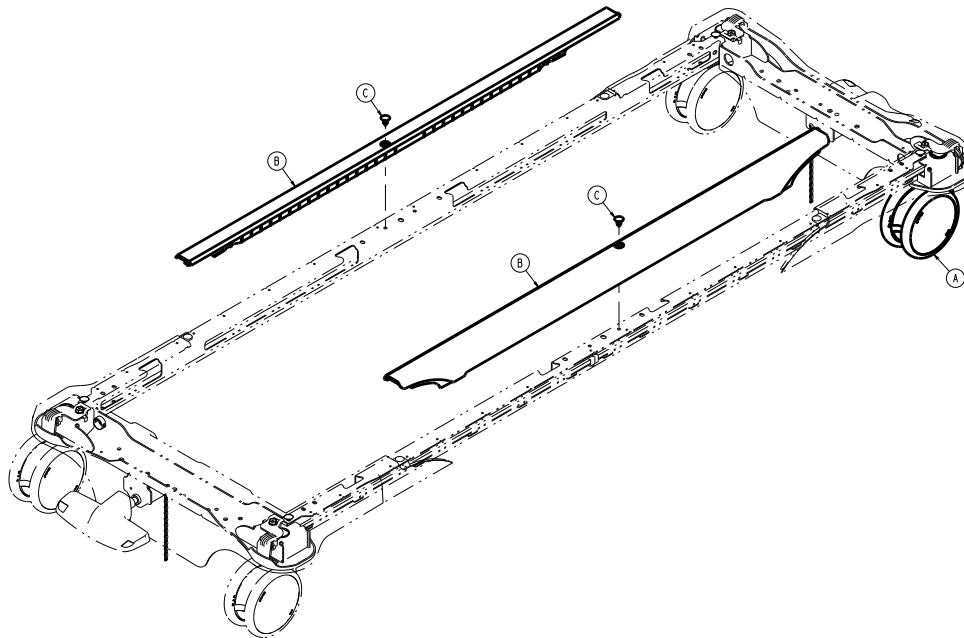

Figure 5 – Removing the covers
5. Using a slotted screwdriver and diagonal pliers, remove the retainers (C) from the left and right center base covers (B) (Figure 5). Discard the retainers. Remove the covers.